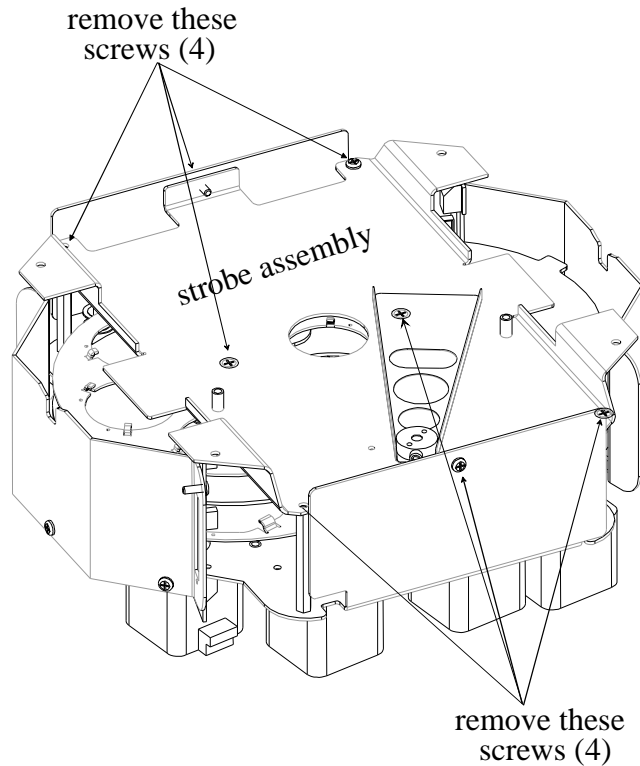

Figure B.3. Removing the Strobe Plate
7. Remove the six screws holding the strobe plate to its standoffs. Refer to Figure B.3.
8. Remove the two screws securing the L-brackets to the sides of the optical assembly. Refer to Figure B.3.